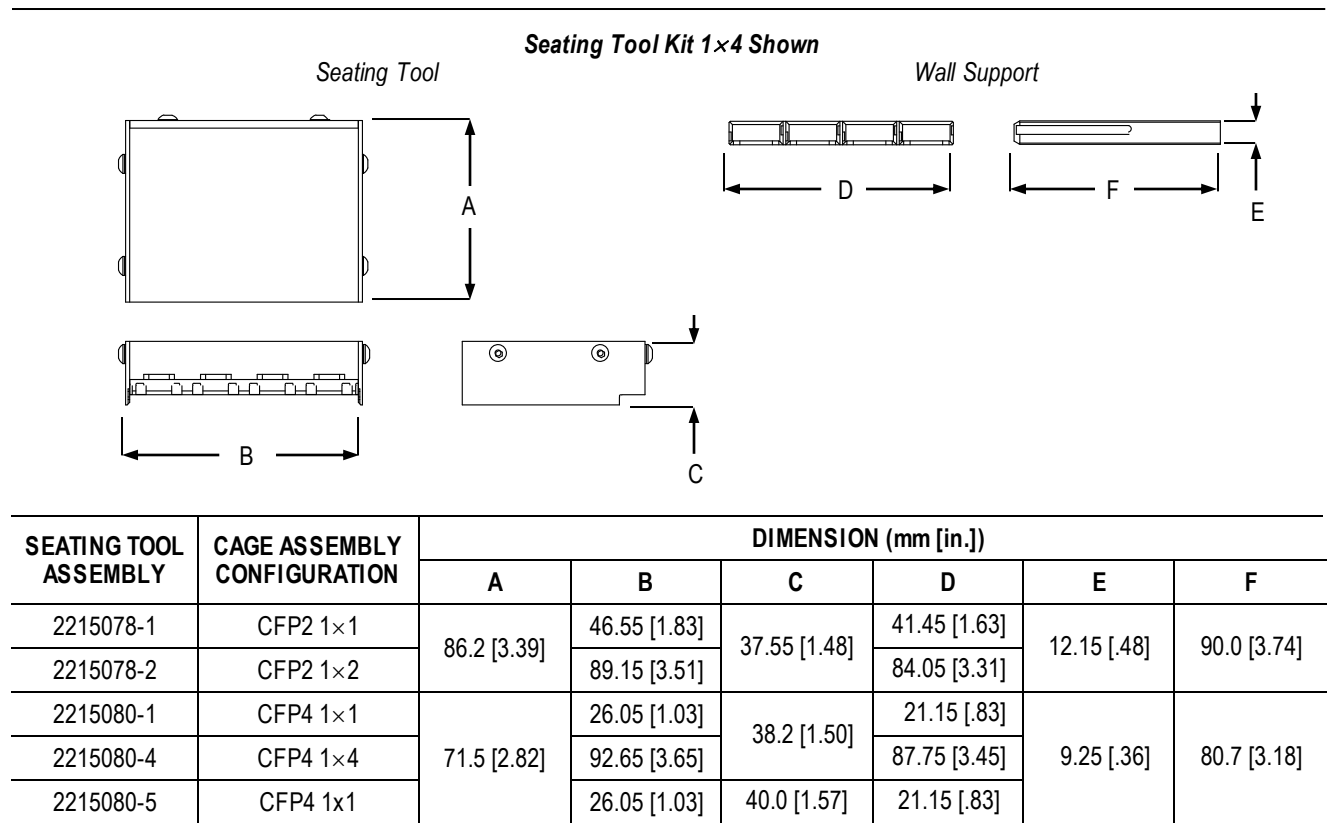

Figure 3
1. Inspect the seating tool assembly immediately upon arrival to ensure that it has not been damaged during shipment and that it conforms to the dimensions given in Figure 3.